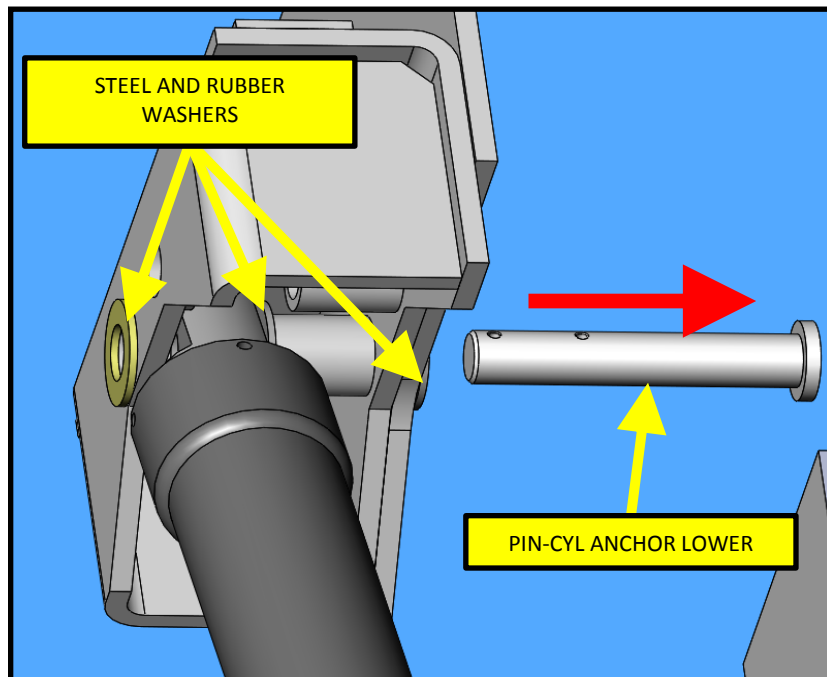

FIG. 7-2
- Slide out upper pin and remove all steel and rubber washers and properly dispose of. Refer to FIG. 7-2.